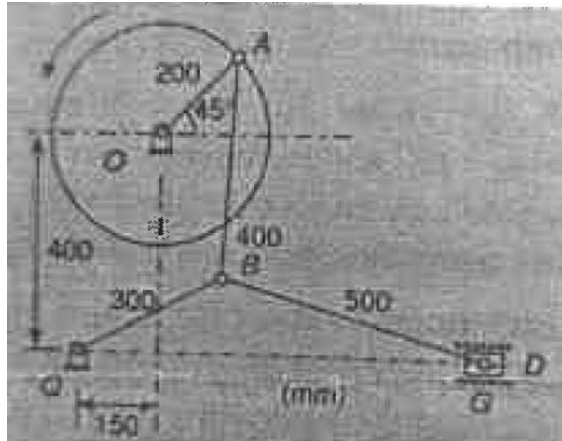

Fig. 4.1
- b) In the toggle mechanism shown in fig. 4.1 the crank OA rotates at 210 rpm counter clockwise increasing at the rate of 60 rad/s^2 . For the given configuration, determine